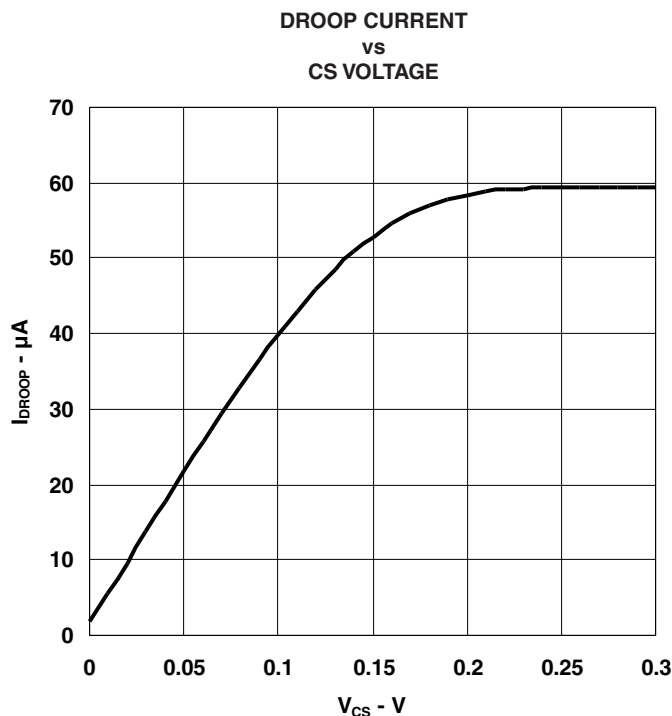

Figure 6.
(1) I_{DROOP} is relatively linear vs V_{CS} and is typically 40 μA at $V_{CS} = 100$ mV. Above $V_{CS} = 100$ mV, I_{DROOP} becomes nonlinear, rolls off, and saturates to approximately 50 μA to 65 μA when $V_{CS} > 200$ mV (see Figure 6). Thus, above 100 mV, Equation 9 is not accurate.